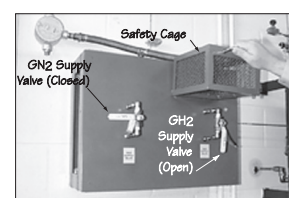

Figure 4.1-23.
**4.1.17.5.** On the east range wall, **lift** the safety cover over the **GH2 Supply Valve** (Figure 4.1-23). **Open** the **GH2 Supply Valve** for 10 seconds, then **close** the valve.